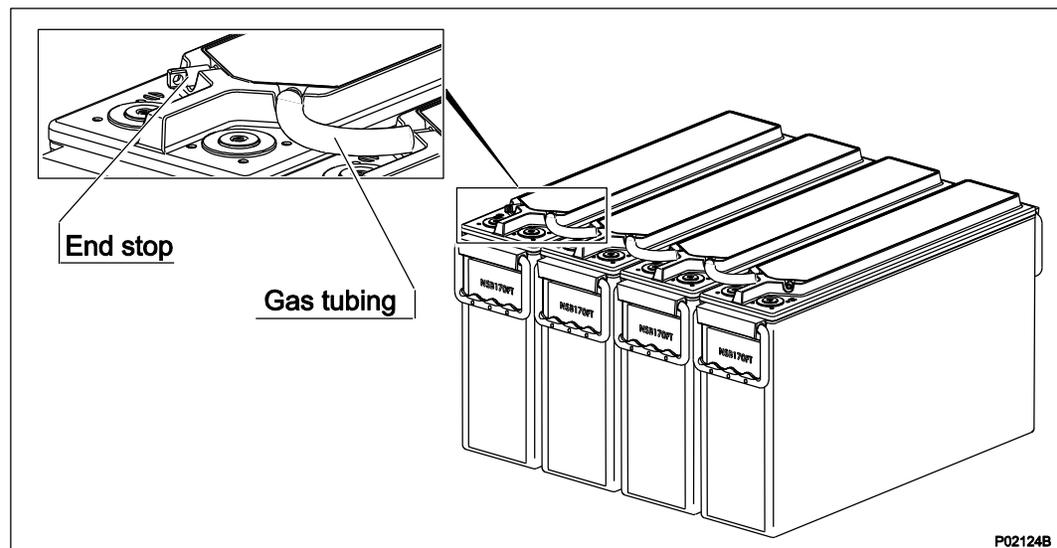

Figure 17 Connecting Gas Ventilation Tubes
1. Cut the venting tube in four pieces for each battery string, three pieces with length = 110 mm, the fourth tube is the remaining length. Use the short pieces for connecting the batteries in the battery string as in Figure 17.
3. At the top shelf, fit the end stop to the battery at the end of the battery string as in Figure 17.